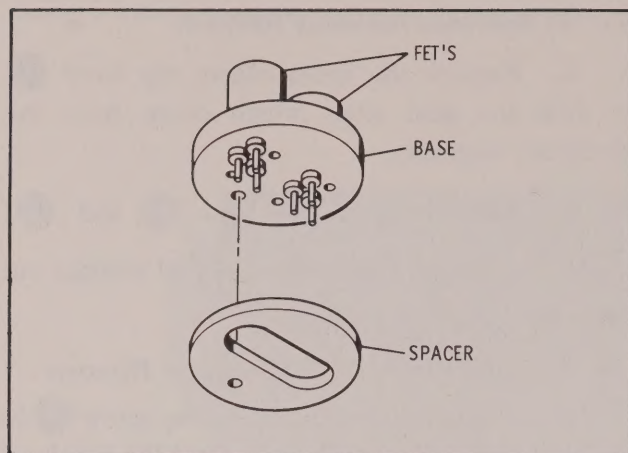

Figure 10. FET Assembly and Spacer
f. Gently lift the FET Assembly and spacer from the circuit board. Refer to Figure 10.
b. Insert the lead clamp compression spring and cap screw to hold the spacer and assembly in place against the printed circuit board. Refer to Figure 10.